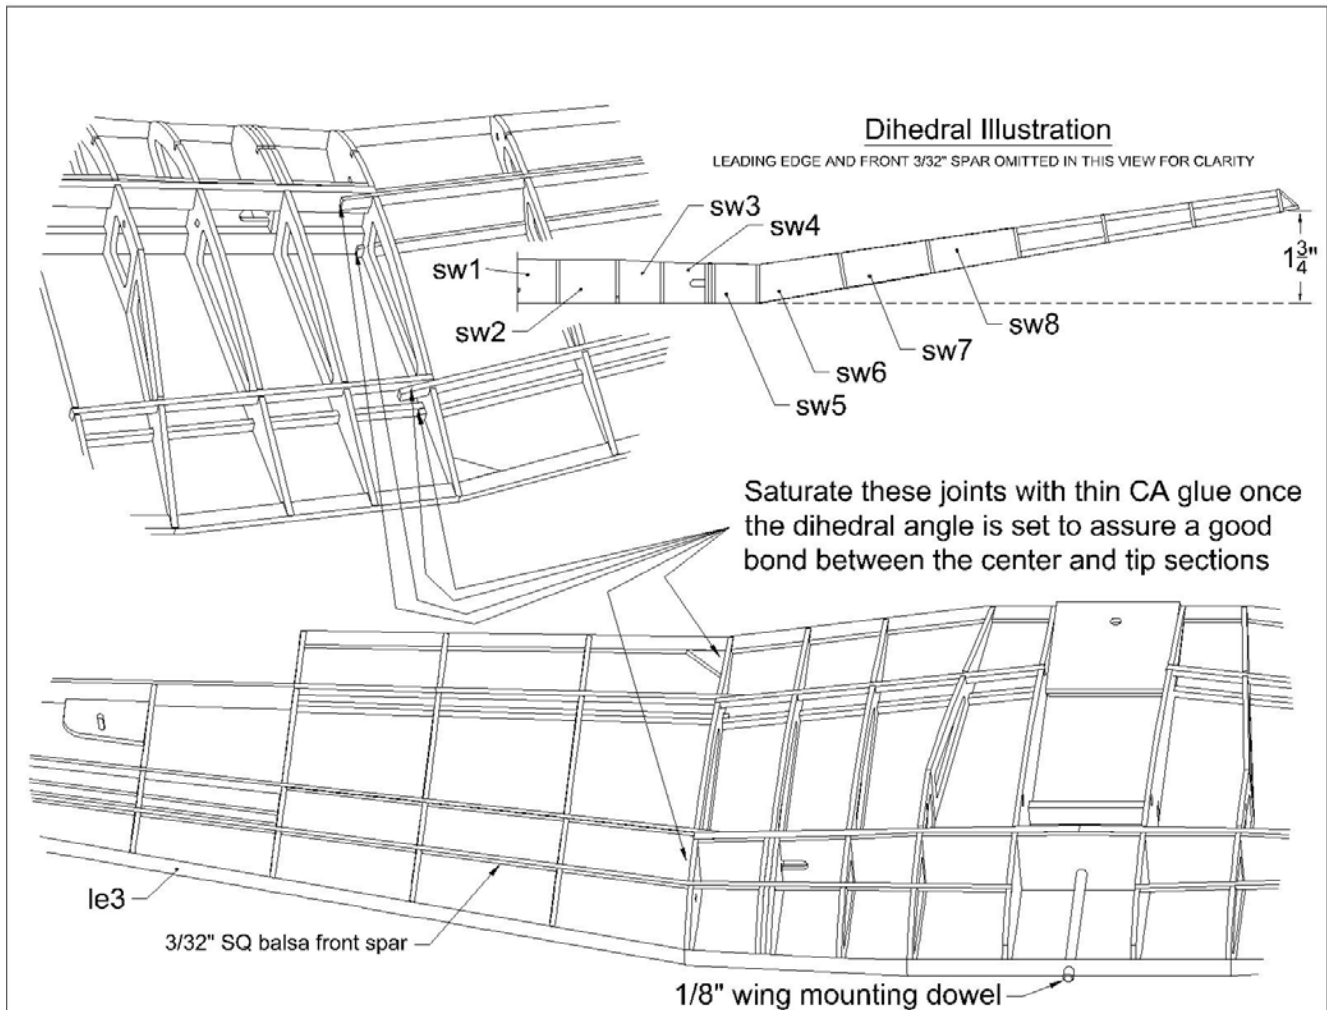

Figure 9
- ❑ Unpin each outer wing panel and "block up" each tip to the dihedral dimension shown in figure 9.
- ❑ At this point glue the outer wing panel spars to the center wing section spars as shown in Figure 9. Use a 90 deg triangle to make sure the outer panels are aligned over the plans.
- ❑ Glue the 1/8" wing-mounting dowel to **sw1** and **le1** per the plan sheet and Figure 9.